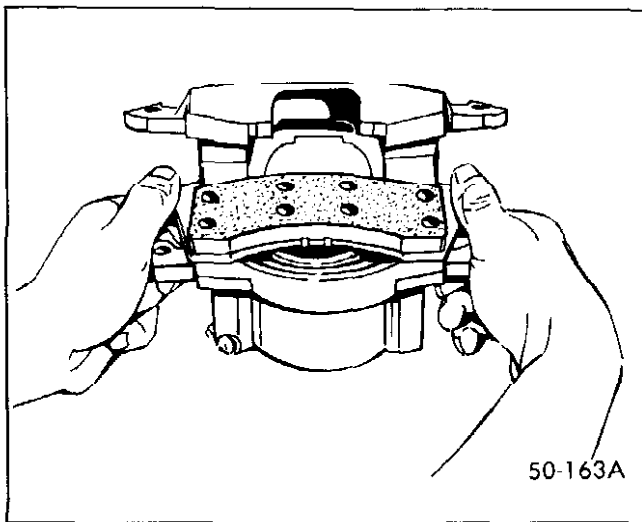

Figure 50-52--Installing Inboard Shoe
4. Position the inboard shoe and lining assembly (with spring attached) in the caliper so that the ear end of the shoe and lining is down and the bottom end up at an angle with the spring resting on the piston I.D. See Figure 50-52. Press down on both ends of the shoe until the shoe is in a flat position, resting on the piston. The spring end of the inboard shoe support spring should be resting on the I.D. of the piston.